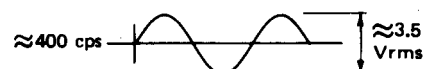

Figure 4-1. Test Point Locations
- (1) Connect the ac power cable to the 115-Vac receptacle on the left side of the indicator and then to ac power source.
- (2) Set the POWER switch to 115 V position.
- (3) Set the LOAD INDICATOR/BATTERY CHECK switch to the momentary BATTERY CHECK position to determine if the internal 115 Vac to 35-Vdc power supply is functioning. Null meter should indicate a reading in the green band; if not, refer to paragraph 4-18.
- (4) Check voltages at TP-4, TP-5, and TP-6 with reference to case ground using multimeter. (See Figure 4-1.) Multimeter should indicate +20, 0, and +10 Vdc respectively; if not, refer to paragraph 4-19.
- (5) Set POWER switch to OFF position.
- (6) Disconnect the ac power cable at the ac power source.
- (7) Connect the dc power cable between the 24 Vdc receptacle on the left side of the indicator and the dc power source.
- (8) Set POWER switch to 24 V position.
- (9) Set the LOAD INDICATOR/BATTERY CHECK switch to the momentary BATTERY CHECK position to determine if the external dc power source polarity is correct and the voltage is within the green band. If the pointer of the null meter swings to the yellow position of the meter, reverse the dc power source connections. If voltage is outside green band, refer to paragraph 4-20.
- (10) Check voltages at TP-4, TP-5, and TP-6 with reference to case ground using multimeter. Multimeter should indicate +20, 0, and +10 Vdc respectively; if not, refer to paragraph 4-19.
- (11) "Adjust dc power source from 22 to 28 Volts while checking for stable +20 Vdc at TP-4; if not stable, refer to paragraph 4-21.
- (1) Turn off external dc power source.
- (2) Unreel the cell cables sufficiently to connect each cable to its proper load cell, observing proper color coding (red to red, yellow to yellow, and blue to blue).
- (3) Turn on external dc power source; adjust the dc power source for an output of between 22 and 28 Volts.
- (4) Set the POUNDS switch thumbwheels to 0-0-0-00.
- (5) Set the CELL SELECTOR switch to CELL 1.
- (6) Adjust R101 (Cell 1 ZERO SET control) until null meter indicates NULL (see figure 4-1); if reading cannot be obtained, refer to paragraph 4-22.
- (7) Set the POUNDS switch to 0-0-2-10 to perform null meter function check; observe that the pointer of the null meter deflects to the beginning of the green band or further left; if meter does not deflect, refer to paragraph 4-23.
- (8) Set the POUNDS switch thumbwheels to 0-0-0-00.
- (9) With a spherical adapter placed on load CELL 1, exert pressure with the palm of your hand and check that pointer of the null meter deflects to the beginning of the yellow band or further; if meter does not deflect, refer to paragraph 4-24.
- (10) Repeat steps 6 to 9 for load CELLS 2 and 3.
- (11) Turn off external dc power source.
- (12) Disconnect the load cells and return them to the recesses in the Aircraft Weighing Kit.
- (13) Disconnect the dc power cable at the dc power source.
- (14) If Aircraft Weighing Kit performs correctly and if it requires calibration, proceed to step h of BENCH ALIGNMENT, paragraph 4-58. Performance of the bench alignment procedure will further test the kit to determine if kit functions properly and if it can be properly calibrated using a deadweight machine.